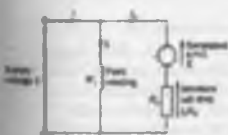

Figure 22.16
- (ii) The armature circuit of a d.c. motor has resistance due to the armature winding and brushes, R_a , thus, and when armature current I_a is flowing through it, there is a voltage drop of $I_a R_a$ volts. In Fig. 22.16 the armature resistance is
In the shunt wound motor the field winding is in parallel with the armature across the supply as shown in Fig. 22.16
For the circuit shown in Fig. 22.16,